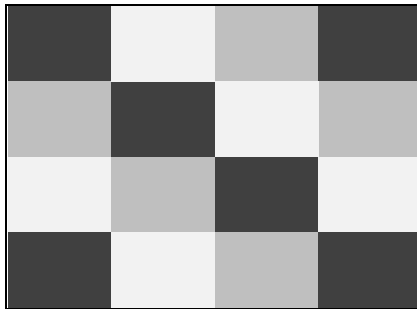

Figure 4-2. Display Test Pattern
6. Press **F3** **CALIBRATE** .The Test Tool shows a dark display; the test pattern as shown in Figure 4-2 may be not visible or hardly visible.
The Test Tool shows the display test pattern shown in Figure 4-2, at default contrast. Observe the display closely, and verify that the display shows no abnormalities. Also verify that the contrast of the upper left and upper right square of the test pattern is equal.
The Test Tool shows a light display; the test pattern as shown in Figure 4-2 may not be visible or hardly visible.